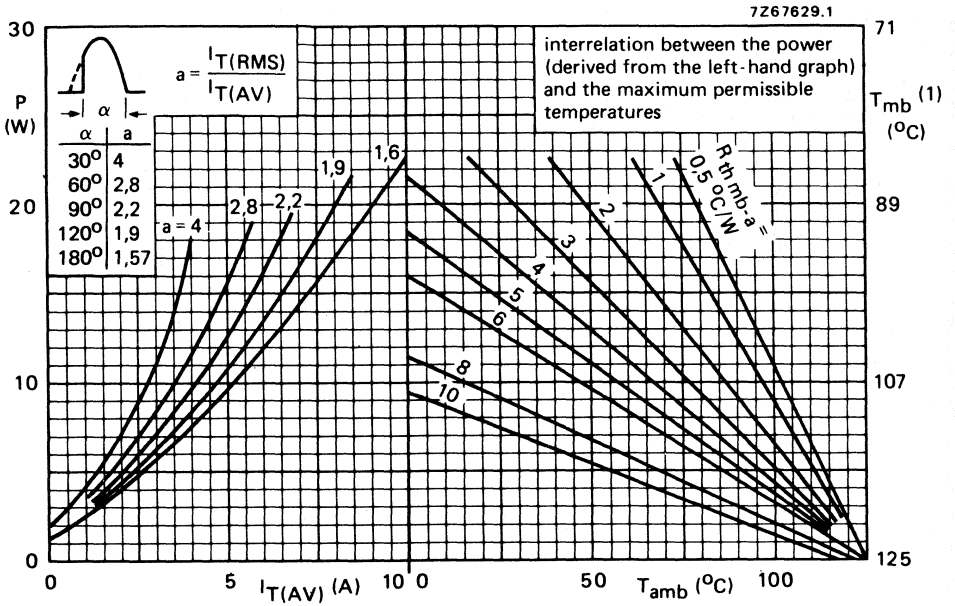

Fig. 3 (1) T_{mb} scale is for comparison purposes only and is correct only for $R_{thmb-a} \leq 6 \text{ } ^\circ\text{C/W}$.
*To ensure thermal stability: $R_{th j-a} < 4$ °C/W (d.c. blocking) or < 8 °C/W (a.c.). For smaller heat-sinks $T_{j max}$ should be derated. For a.c. see Fig. 3.